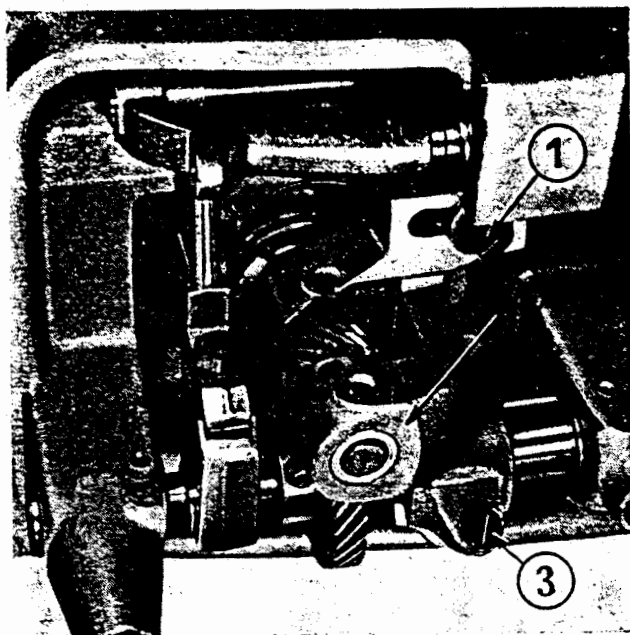

Fig. 20
To prevent the breaking of the needle thread, the sewing hook tip should be set as closely as possible to the needle. To adjust the distance between the blade tip of the sewing hook and the needle, first, rotate the hand wheel with your hand until the center of the needle and the blade tip coincide with each other. Then, if the 2 screws (Fig. 20 ① and ③) are loosened, the base of the sewing hook (Fig. 20 ②) will move to right or left. At this position, bring the needle and the blade tip of the hook as close as possible without touching each other and then re-tighten the screws.